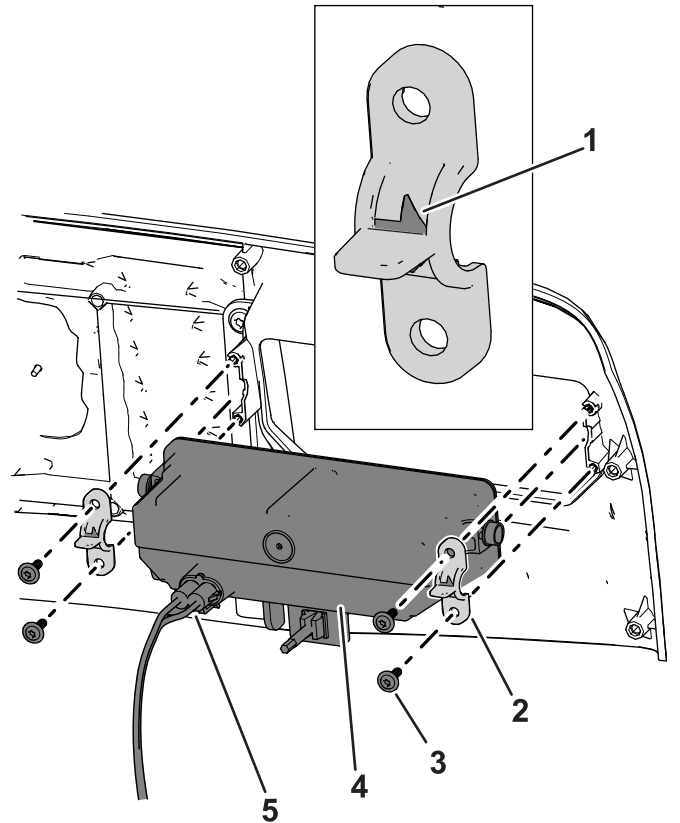

Figure 45
3. Disconnect the electrical connector for the harness from the connector of the headlight assembly (Figure 45).
4. Remove the plastic clips and headlight screws that secure the headlight to the machine, and remove the headlight assembly (Figure 45).
5. Install the new headlight in the machine using the retained plastic clips and headlight screws. Torque the headlight screws to 1.6 N·m (14 in-lb); refer to Figure 45.
Note: Ensure the directional arrows on the plastic clips point to the outside of the machine (Figure 45).
6. Connect the electrical connector for the harness to the connector of the headlight assembly (Figure 45).